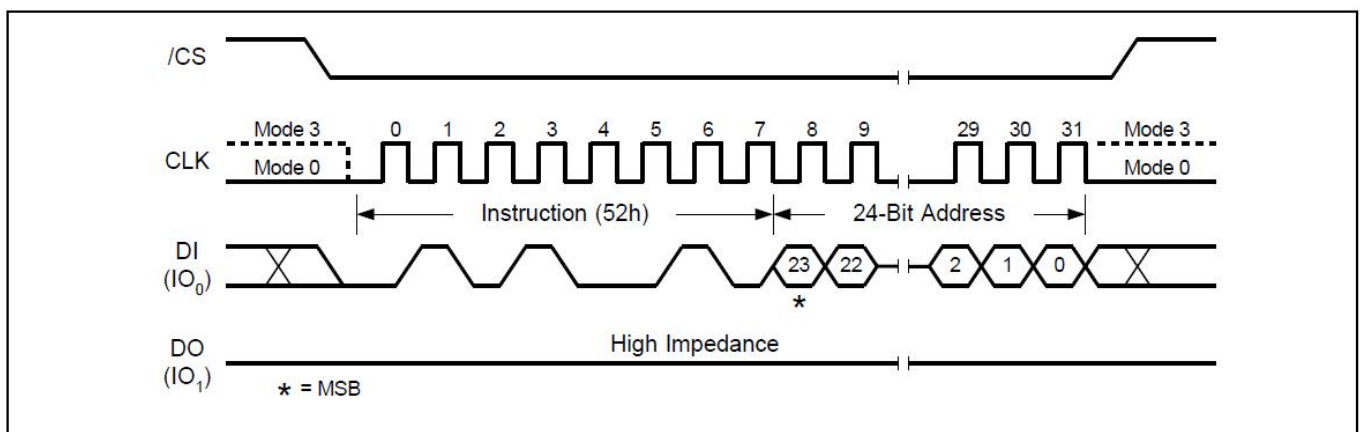

Figure17. 32KB Block Erase Sequence Diagram
The 32KB Block Erase command sequence: CS# goes low → sending 32KB Block Erase command → 3-byte address on DI → CS# goes high. The command sequence is shown in Figure17. CS# must be driven high after the eighth bit of the last address byte has been latched in; otherwise the 32KB Block Erase (BE) command is not executed. As soon as CS# is driven high, the self-timed Block Erase cycle (whose duration is tSE) is initiated. While the Block Erase cycle is in progress, the Status Register may be read to check the value of the Write in Progress (BUSY) bit. The Write in Progress (BUSY) bit is 1 during the self-timed Block Erase cycle, and is 0 when it is completed. At some unspecified time before the cycle is completed, the Write Enable Latch (WEL) bit is reset. A 32KB Block Erase (BE) command applied to a block which is protected by the Block Protect (CMP, SEC, TB, BP2, BP1, and BP0) bits (see Table 1-2) is not executed.